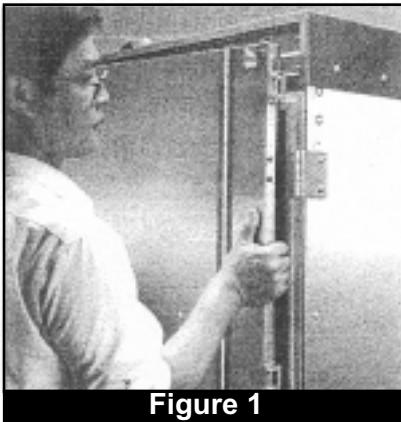

Figure 1
3. Remove front and back doors by lifting entire door and sliding hinge off of hinge pins. (Fig. 1)